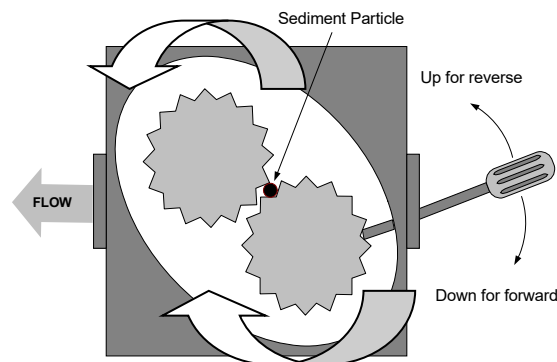

Figure 25
3. Use a screwdriver to manually turn the gears (see Figure 25).